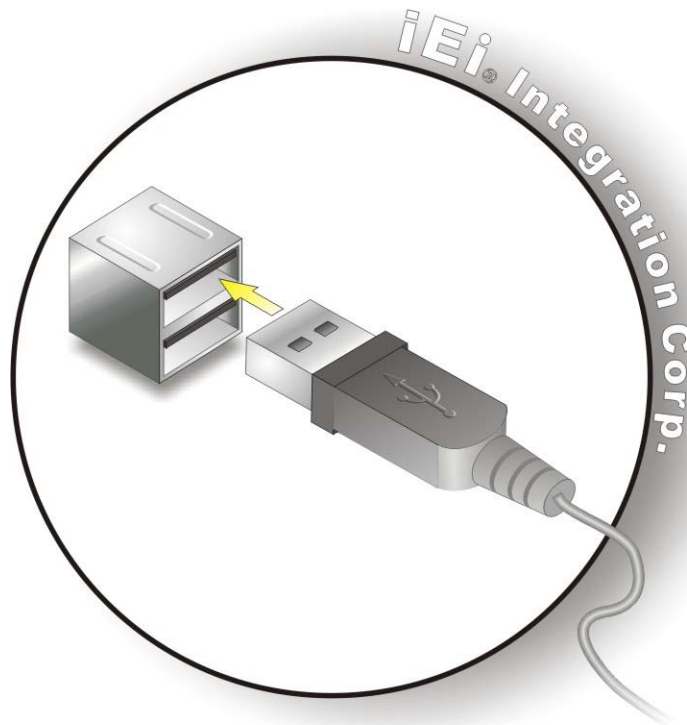

Figure 3-28: USB Device Connection
Step 2: Align the connectors. Align the USB device connector with one of the connectors on the bottom panel. See **Figure 3-28**.